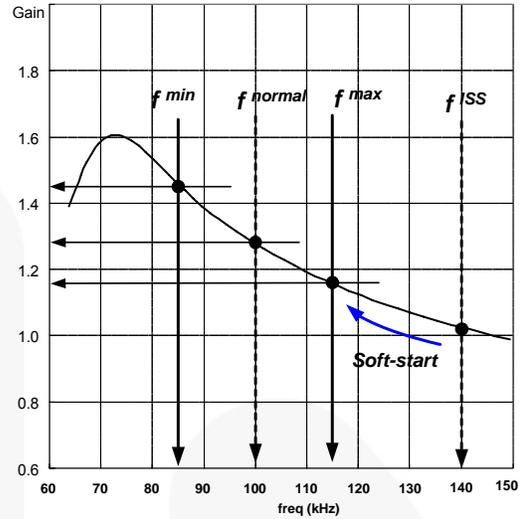
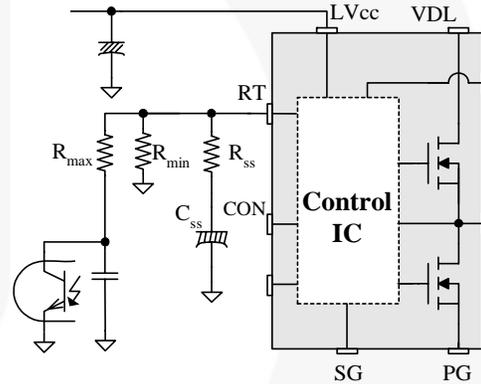

Figure 18. Resonant Converter Typical Gain Curve
Figure 19. Frequency Control Circuit
**3. Frequency Setting:** Figure 18 shows the typical voltage gain curve of a resonant converter, where the gain is inversely proportional to the switching frequency in the ZVS region. The output voltage can be regulated by modulating the switching frequency. Figure 19 shows the typical circuit configuration for  $R_T$  pin, where the opto-coupler transistor is connected to the  $R_T$  pin to modulate the switching frequency.
connecting R-C series network on the RT pin, as shown in Figure 19. FSFR-series also has an internal soft-start for 3ms to reduce the current overshoot during the initial cycles, which adds 40kHz to the initial frequency of the external soft-start circuit, as shown in Figure 20. The initial frequency of the soft-start is given as: